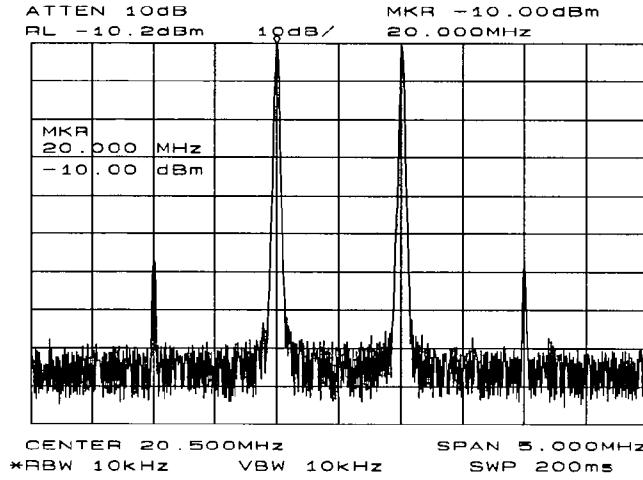

Figure 3-9. Signal Peak Set to Reference Level
- For greatest measurement accuracy, position the peaks of the source signals at the reference level. The spectrum analyzer function **MARKER -> REF LVL** allows you to set the reference level using a marker. First, place a marker on the source signal of highest amplitude by pressing **PEAK SEARCH**. Then set the reference level to this value by pressing **(MKR ->)**, and then **MARKER -> REF LVL**. Figure 3-9 illustrates the resulting display.